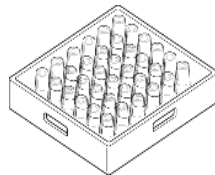

Fig.11
- 2- Load glasses and bowls in upside down position. (Fig.11)